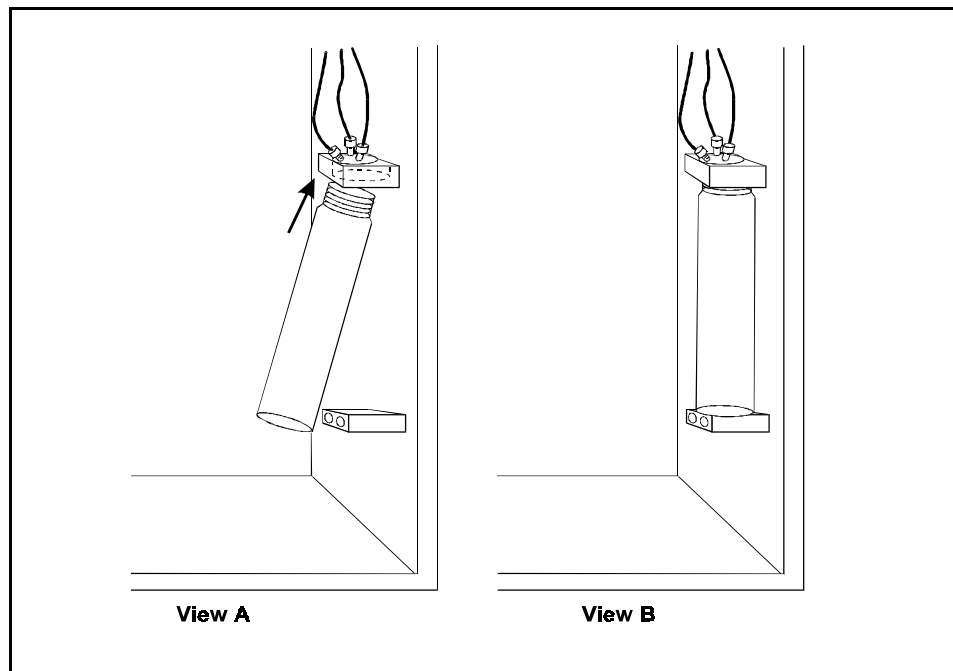

Figure B-8. Waste Vial Installation
8. To install the vial, tilt it at about a 15° angle and align the lip of the vial with the opening under the top bracket of the holder (see Figure B-8, view A).
9. Push the lip of the vial up into the top bracket and straighten the vial until it is vertical and rests on the bottom bracket (see Figure B-8, view B). To remove the vial, push it up. Then tilt it out and pull it down and away from the bracket.